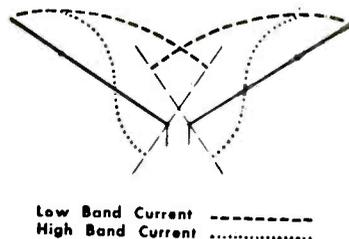

Fig. 3—High and low band current distribution of a basic Vee dipole.
It is also common practice to provide an adjustment, either on the front panel or on the TV chassis, which is called the *color hold* control. However, in the case of the 3.58 mc oscillator, a reactance control tube is commonly placed between the phase detector tube and the reference oscillator. The balanced phase detector develops a *dc* output voltage proportional to the amount by which the oscillator is off frequency. This *dc* correction voltage is fed to the grid of the reactance tube, which in turn reflects a change in reactance across the oscillator, causing it to change frequency and fall into synchronization. (See Fig. 3). In the light of this discussion it is apparent that the 3.58 mc color oscillator should have a definite "pull-in" range and other synchronizing charac-
- The configuration of this new antenna is a series of "Vee'd" dipoles. To understand the theory of its operation, it is necessary to review the basic Vee dipole. When this dipole is approximately $\frac{1}{2}$ wave on the low band, it is about 3 half waves on the high band (*Fig. 3*). Anti-phase high band opera-